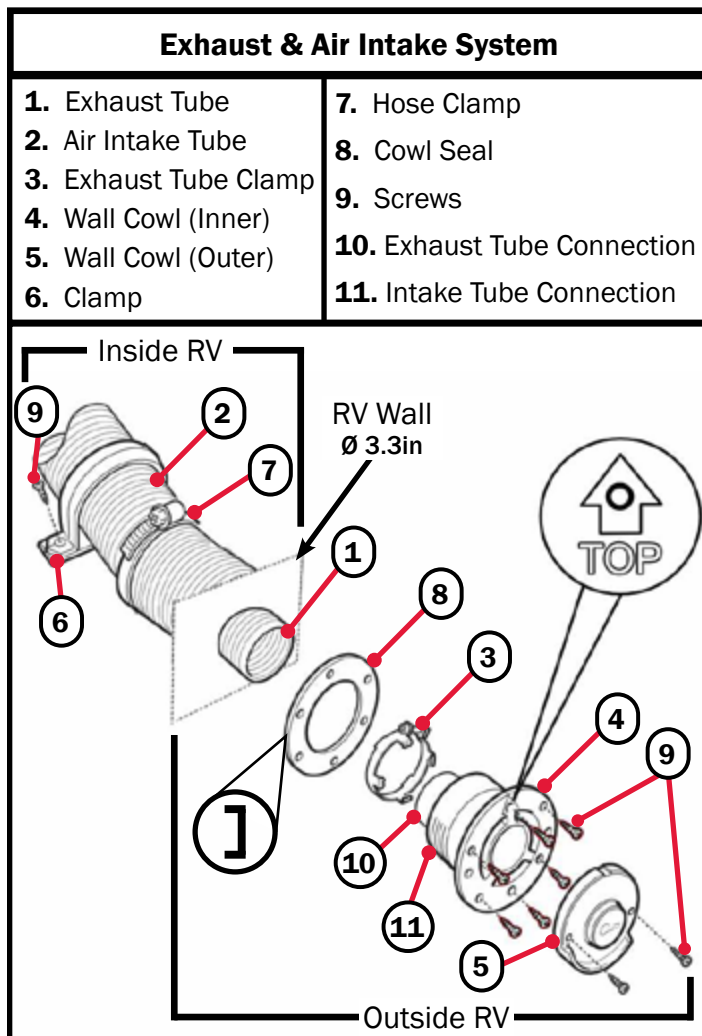

Figure 9
- Drill one hole (Ø 88mm, 3.3in) in the RV wall and seal with the gasket (Figure 9 #8) smooth side facing the exhaust vent and gasket facing the RV wall (Figure 9 #3).